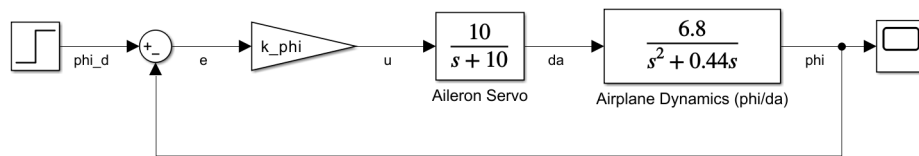

Figure 4: Block diagram for Bank Angle Hold Mode (Autopilot)
- (a) A block diagram for the bank angle control system (bank angle hold autopilot) is shown in Figure 4. Find the k_ϕ gain using the root locus method to achieve a closed-loop system with an overshoot of 15%. Then, simulate the control system in Simulink by setting the step command to $\phi_d = 0.1$ rad. If the desired settling time of the response is 5 seconds, evaluate whether the response meets the desired specifications in terms of overshoot and settling time. [M]